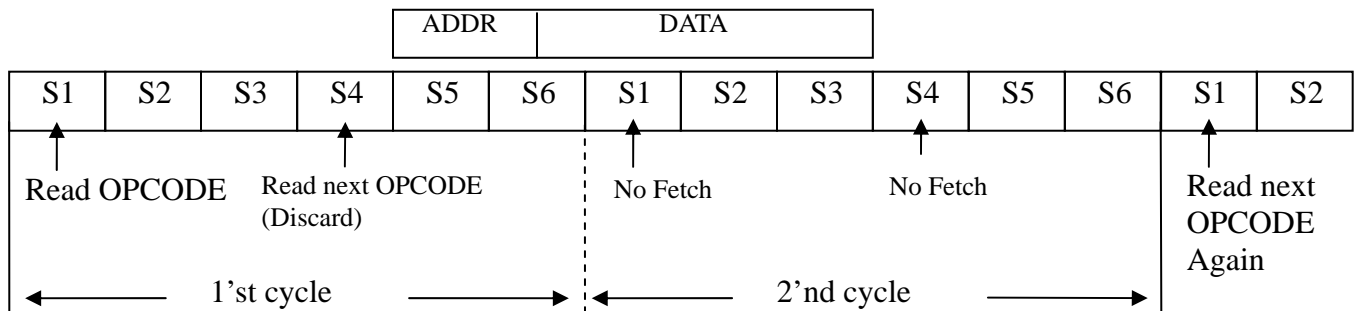

Figure 14 Timing of various instructions
FIGURE 14 shows the fetch / execute sequences in states and phases for various kinds of instructions. Normally the program fetches are generated during each machine cycle, even if the instruction being executed doesn't require it. If the instruction being executed doesn't need more code bytes, the CPU simply ignores the extra fetch, and the PROGRAM COUNTER is incremented accordingly.
Execution of a one-cycle instruction (FIGURE 14 A and B) begins during S1 of the machine cycle, when the OP CODE is latched into INSTRUCTION REGISTER. A second fetch occurs during S4 of the same machine cycle. Execution is completed at the end of S6 of this machine cycle.
The MOVX instructions take two machine cycles to execute. No program fetch is generated during the second cycle of a MOVX instruction. This is the only time program fetches are skipped. The fetch/execute sequence for MOVX instructions is shown in FIGURE 14 (D)